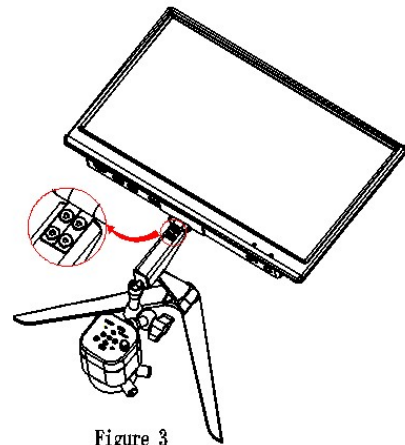

Figure 3
- 3) Take out the display screen from the box and fix the display cover on the connecting rod with four M3 screws, as shown in Figure 3.